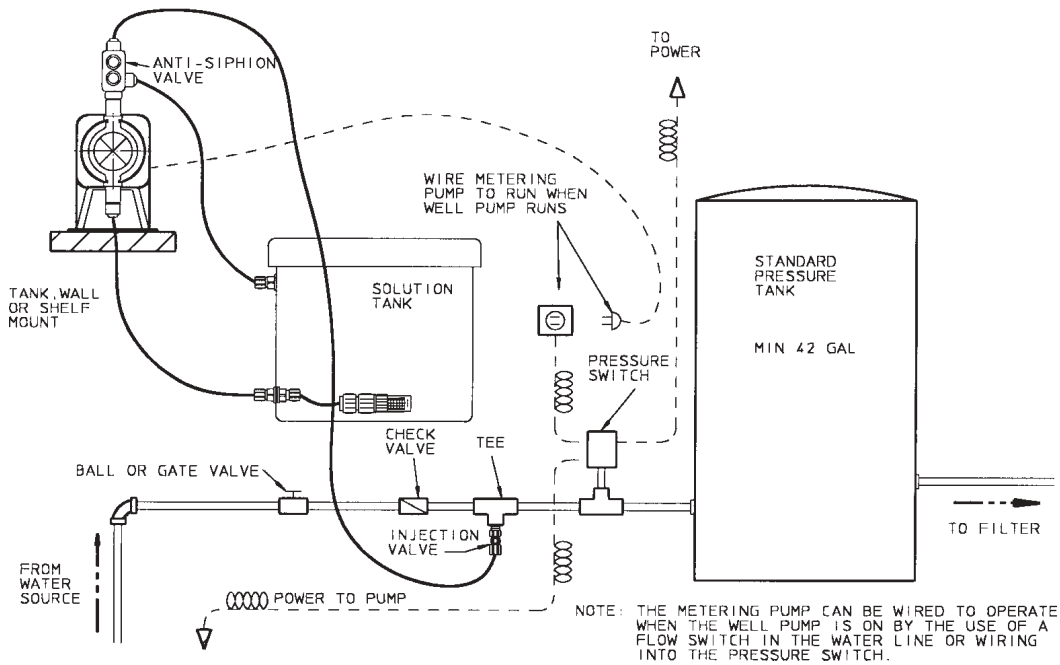

Figure 2.3
- The pump is designed to operate using a backpressure/injection valve. If the discharge point is below the liquid level of the source or if the discharge pressure is less than the suction pressure, syphoning may occur. To correct this condition, install an anti-syphon valve or other anti-syphon device. Check local regulations that may apply. (Refer to Figure 2.3.)
- **USE AN ANTI-SYPHON VALVE IN THE DISCHARGE LINE** whenever the fluid pressure in the discharge line is below atmospheric pressure. This can occur if the injection point is on the suction side of a water pump or against a “negative” head, such as when feeding down into a well (see Figure 2.3).